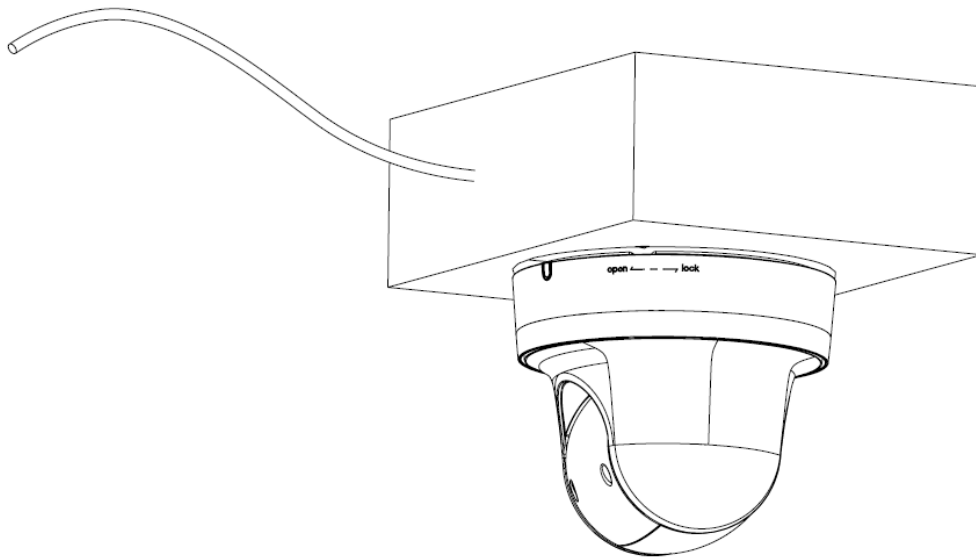

Figure 3-3
- 4) In Figure 3-3, line up the three quick installation screws at the bottom of the pedestal and the concave to the three holes and the U slot at the sheet metal respectively. Turn counter clockwise to secure the speed dome and the sheet metal closely.